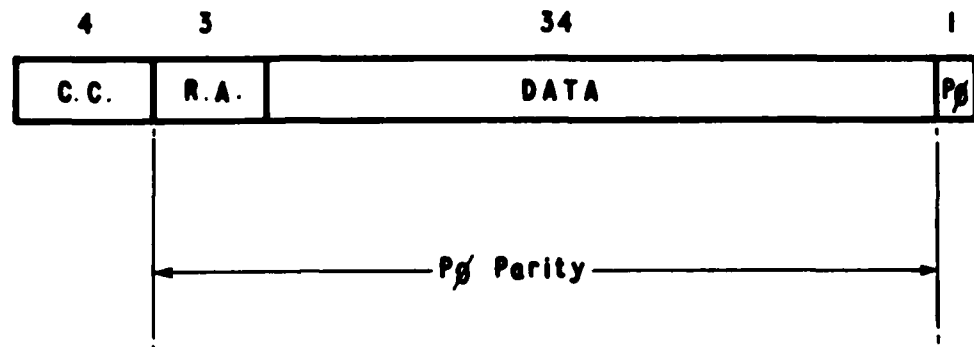

FIGURE 1 - GTU MESSAGE FORMAT
3.1.2.1 GTU Format (see Figure 1)